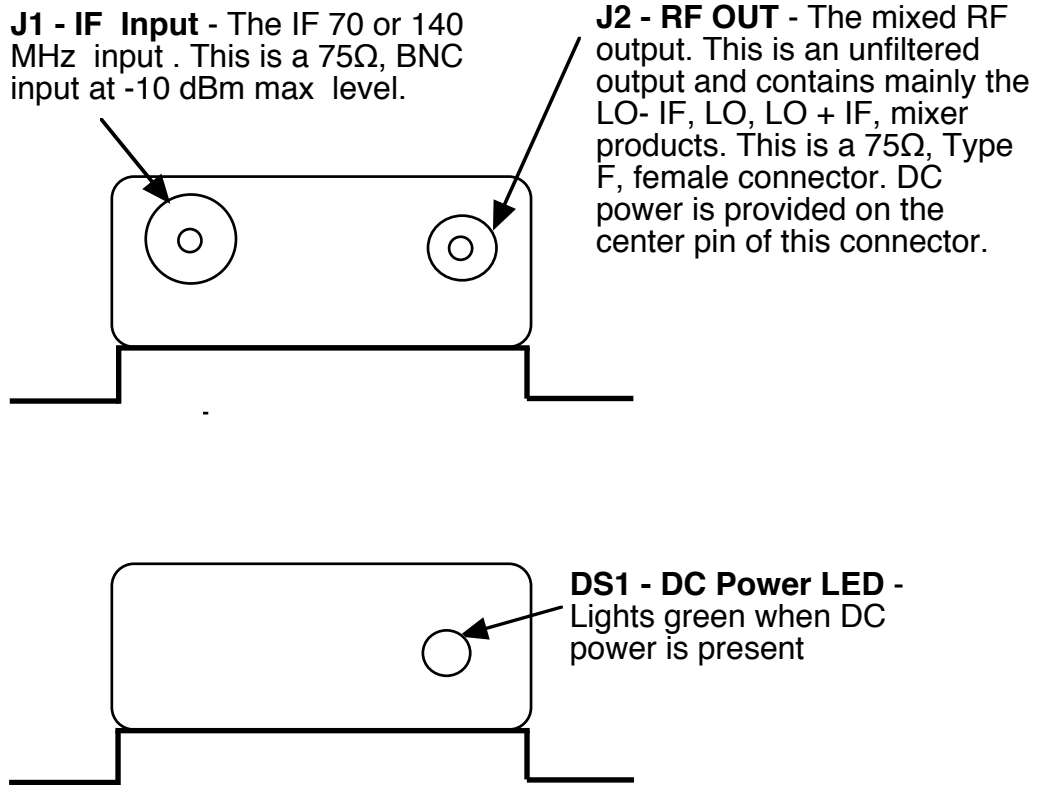

FIGURE 2.3 2006-01 Input, Output, Power LED
2.2 Controls and Indicators - There are no controls. A green LED indicates presence of DC power (Figure 2.3).
2.3 Input / Output Signals - Figure 2.3 shows the input and output signals to the 2006-01.
- 4.) Connect a -10dBm (max.) signal to IF In, J1 (Figure 2.3)